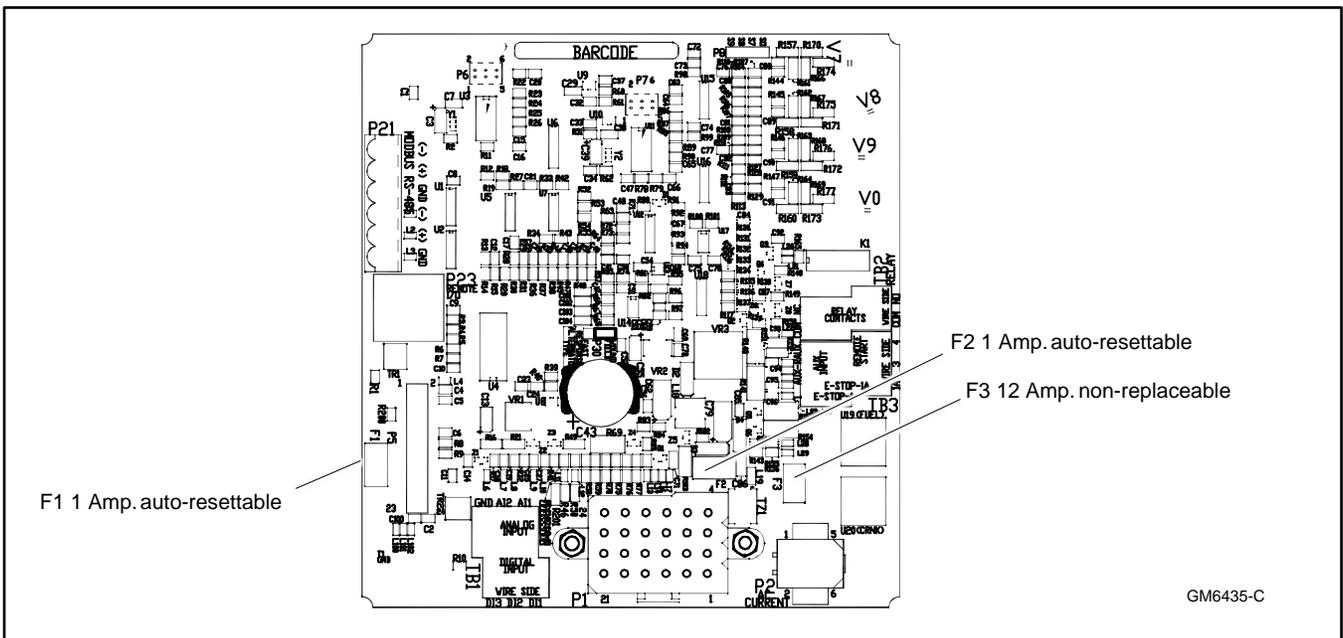

Figure 9 Controller DC Fuses
**DC Circuit Fuses** are located on the controller circuit board. See Figure 9.